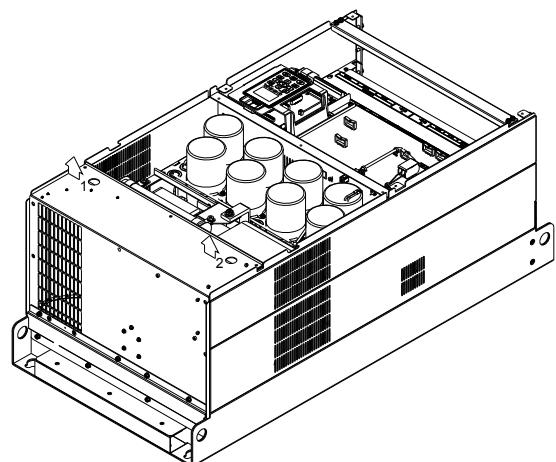

Figure 4
(4) Lift the fan by putting your finger through the protective holes, as indicated in 1 and 2 on the figure 4.